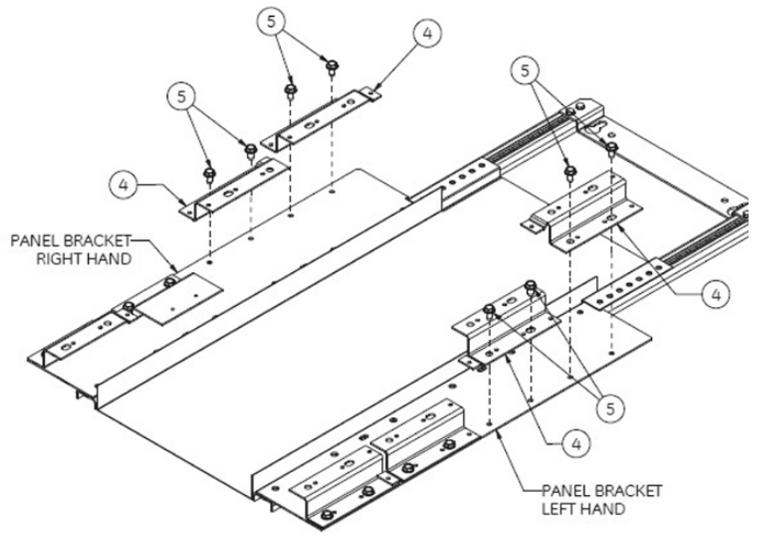

Figure 5. Installation of FB bracket
4. Orient the bracket [4] as shown in Figure 5 according to the breaker position. Fasten with two #10-32x3/8" screws [5] to 40-44 in-lbs.